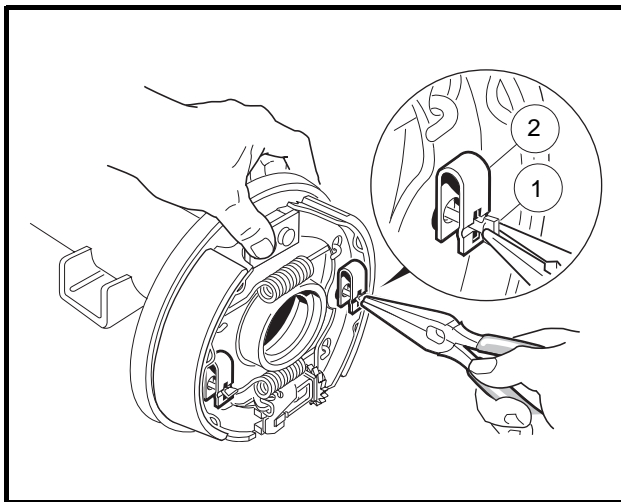

Figure 6-5 Remove Shoe Retainer Clip
9. Using needle nose pliers, turn the clip retainer pin (1) 90° to remove the shoe retainer clip (2) (**Figure 6-5, Page 6-4**).